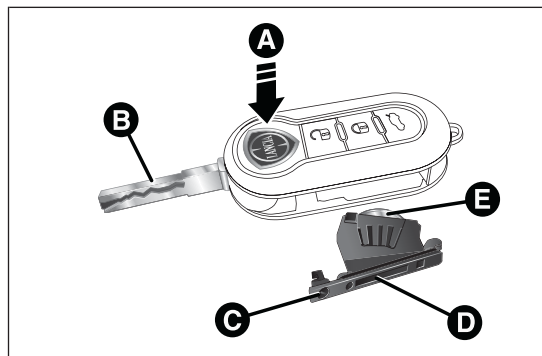

fig. 14
- press button A fig. 14 and open the metal insert B;